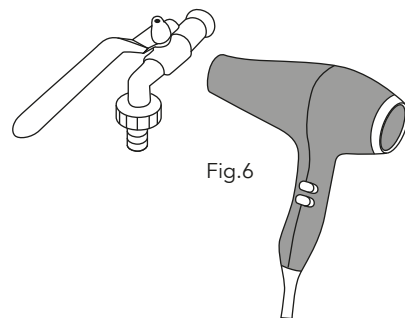

Fig.6
- Plugged tap: if the tap is not emptied properly, it may be necessary to heat it with a hair dryer in order to help the melting of the solidified wax inside. (Fig.6)